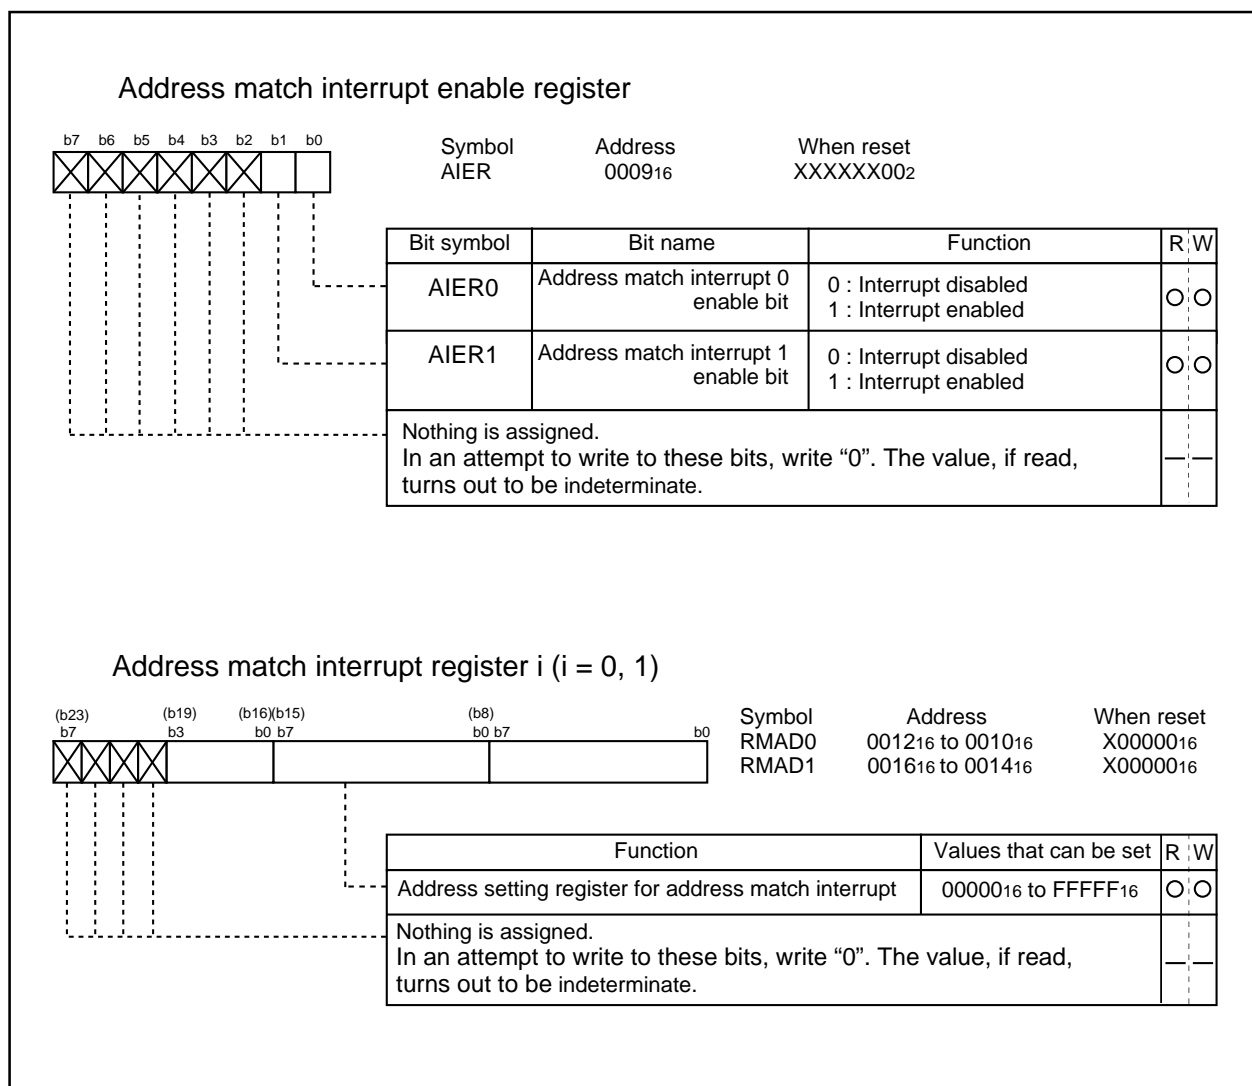

Figure 1.12.15. Address match interrupt-related registers
An address match interrupt is generated immediately before the instruction at the address indicated by the address match interrupt register is executed. Two address match interrupts can be set, each of which can be enabled and disabled by an address match interrupt enable bit. Address match interrupts are not affected by the interrupt enable flag (I flag) and processor interrupt priority level (IPL). The value of the program counter (PC) for an address match interrupt varies depending on the instruction being executed. Figure 1.12.15 shows the address match interrupt-related registers.